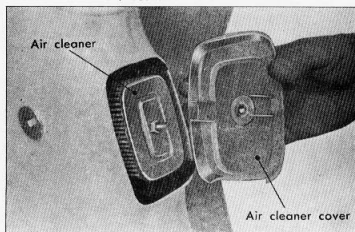

Figure 4-48. Removing air cleaner (C50, C50M, C65, C65M)
- (1) The air cleaner of models C50, C50M, C65 and C65M can be removed by loosening the cap nut at the top of the air cleaner cover. (Fig. 4-48)